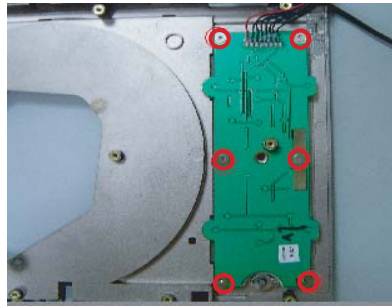

Fig.5
4. Remove key board and other parts as Fig.5